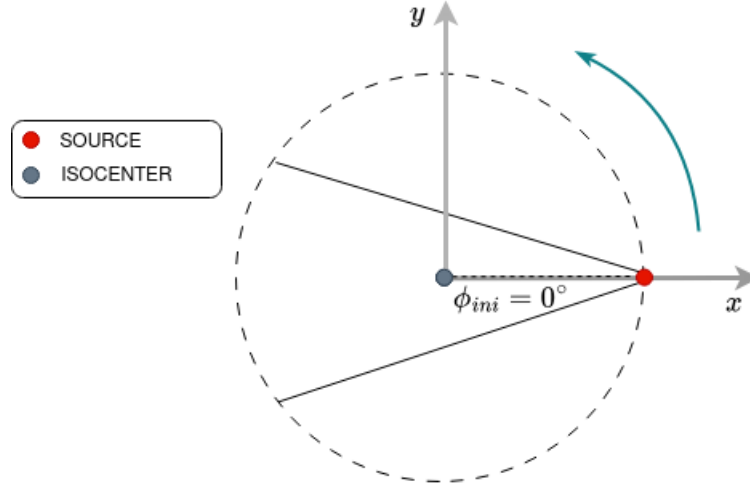

Figure 12: Schematic representation of the CT source emission
- **phi-init** and **phi-end** (in degrees): specify the initial and final angular position of the source. Note that **phi-init** = 0° corresponds to the source located on x-axis, with emission directed to the negative x-axis, as it is shown in Figure 12, and that **phi-end** must be  $\geq$  **phi-init**. Therefore, the source configuration must be configured following these requirements.